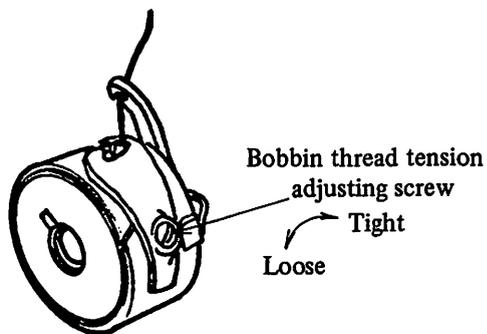

Fig. 13
Pass the bobbin thread through the hole of the bobbin case horn, as shown in Fig. 13, and set the bobbin case into the inner hook.
4.10.1 Bobbin thread tension (Fig. 13)
To adjust bobbin thread tension, turn the thread tension adjusting screw shown in Fig. 13.